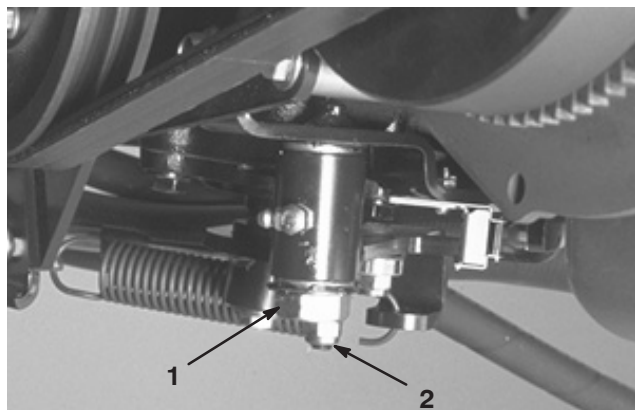

Figure 51
3. Loosen the locknut on the traction adjustment cam (Fig. 51).